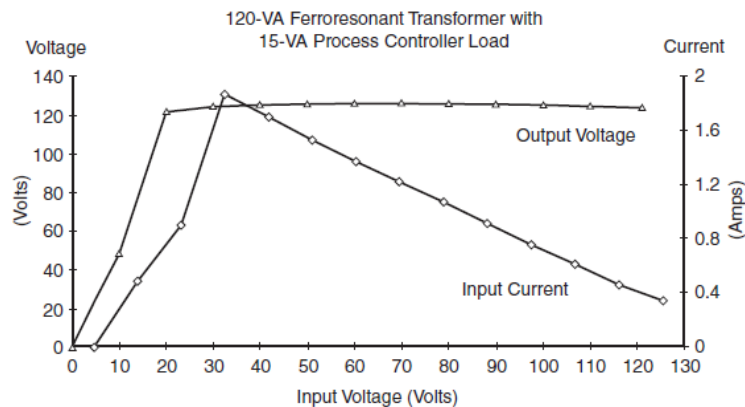

Fig 2.11 Ferro resonant transformer steady-state characteristics.
- As shown in Fig 2.11 as the input voltage is reduced down to 30 V, the output voltage stays constant.